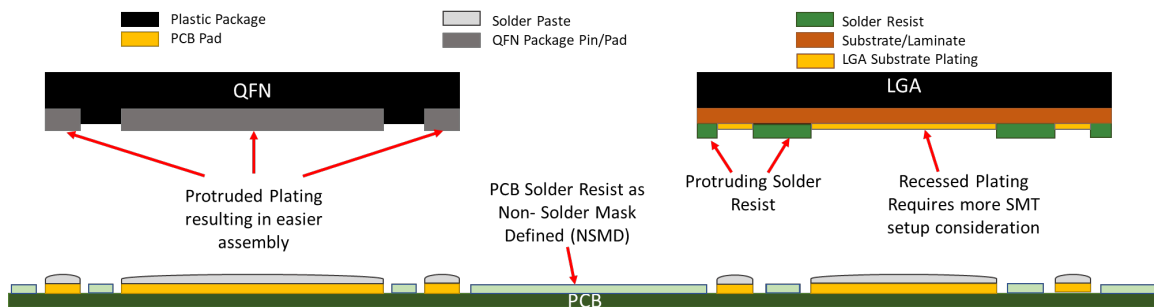

Figure 1.2. Construction Cross-Section Difference between QFN and LGA
In Figure 1.2, the LGA package has recessed pins which are more challenging to reflow, whereas a QFN component's pins protrude slightly aiding in solderability. For this reason, SiP Modules will not always reflow in the same setup or direct manner as a QFN lead-frame-based package. Thus, the Assembly Process Engineer must acknowledge and make adjustments to their board mounting process. During the manufacturing process of a board with a SiP module, consult with the engineers responsible for assembly to make adjustments to assembly process such as solder temperature reflow profile, stencil thickness, aperture opening, etc., based on the specific board design. In some rare instances, the Contract Manufacturer (CM) may suggest changes to the board's PCB layout (such as pad sizes and placement, via and trace positioning, solder mask openings, etc.).